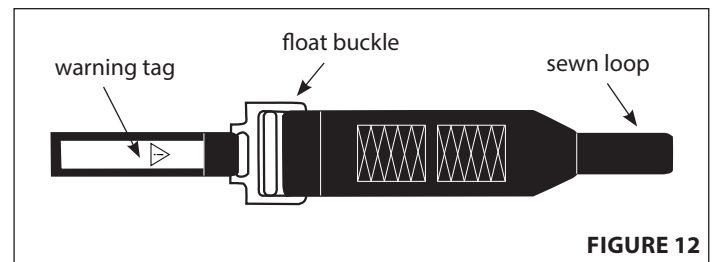

FIGURE 12
1. Hold float buckle so warning tag faces upward. **SEE FIGURE 12.**